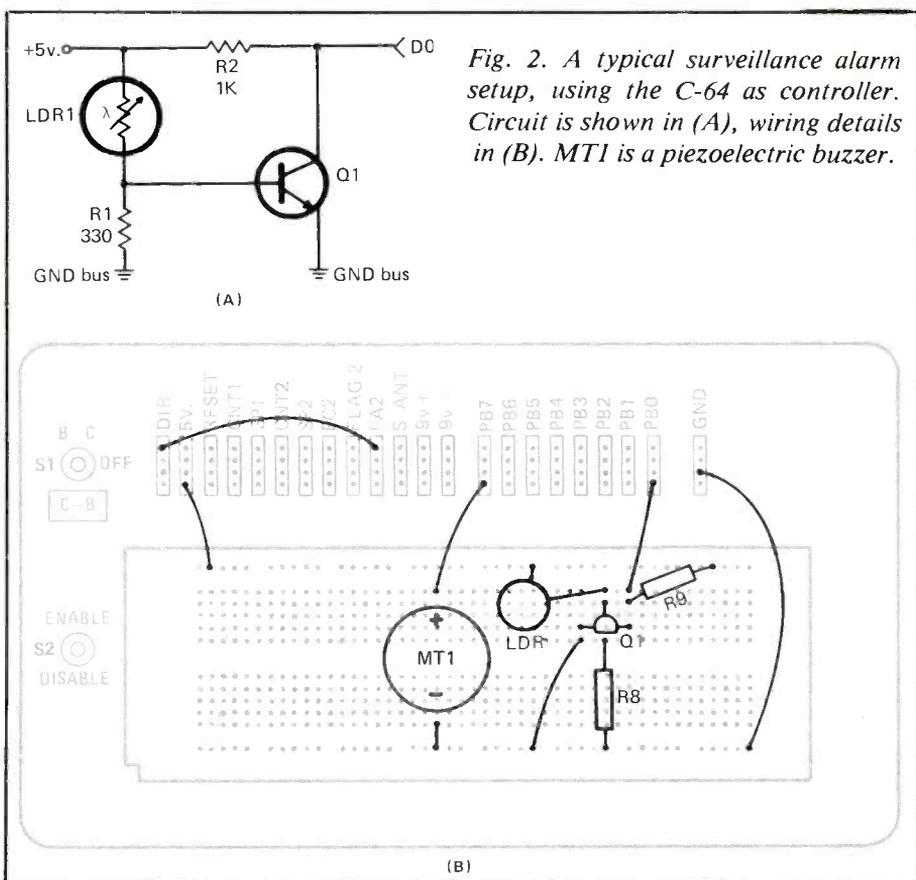

Fig. 2. A typical surveillance alarm setup, using the C-64 as controller. Circuit is shown in (A), wiring details in (B). *MT1* is a piezoelectric buzzer.
Our alarm circuit, shown in Fig. 2(A), uses a light-dependent resistor (*LDR*) as a sensor that turns on and off a transistor switch (*Q1*). This circuit uses only one bit of the binary word, or one data line. Hence, if you wish, you could create a more complex system by using the other seven data lines and combinations thereof to handle a maximum of 256 sensors.
Having assembled the Fig. 2(A) circuit on the EID, as shown in Fig. 2(B), key in Program 3. This short program monitors the circuit for a chance from dark to light. When light is detected, data line *PB0* inputs a low to the computer. In turn, the computer outputs a high on data line *PB7* to turn on the buzzer.
You will probably think of several ways to use the Fig. 2(A) circuit. For example, you can change the software so that the computer looks for a decrease in light, in which case, the circuit can count people passing a